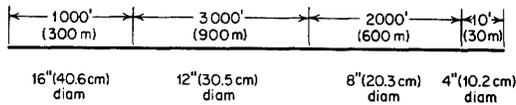

FIG. 6-3 Complex-series pipeline.
Figure 6-3 shows a complex-series pipeline made up of four lengths of different size pipe. Determine the equivalent length of this pipe if each size of pipe has the same friction factor.
For the 16-in pipe, $L_e = (1000)(7.981/15.000)^5 = 42.6 \text{ ft}$. The 12-in pipe is next; for it, $L_e = (3000)(7.981/12.00)^5 = 390 \text{ ft}$. For the 8-in pipe, the equivalent length = actual length = 2000 ft. For the 4-in pipe, $L_e = (10)(7.981/4.026)^5 = 306 \text{ ft}$. Then, the total equivalent length of 8-in pipe = sum of the equivalent lengths = 42.6 + 390 + 2000 + 306 = 2738.6 ft, or rounding off, 2740 ft of 8-in pipe (835 m of 0.2-m pipe) will have a frictional resistance equal to the complex-series pipeline shown in Fig. 6-3. To compute the actual frictional resistance, use the methods given in previous Calculation Procedures.